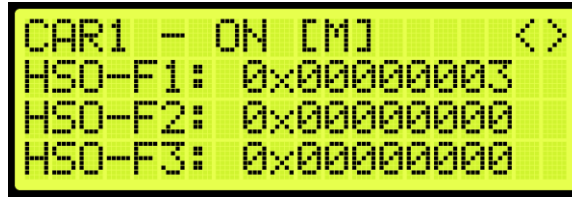

Figure 371: Front Hall Security Map Status
9. From the Front Hall Security Map Status (See Figure 371), press the right button.